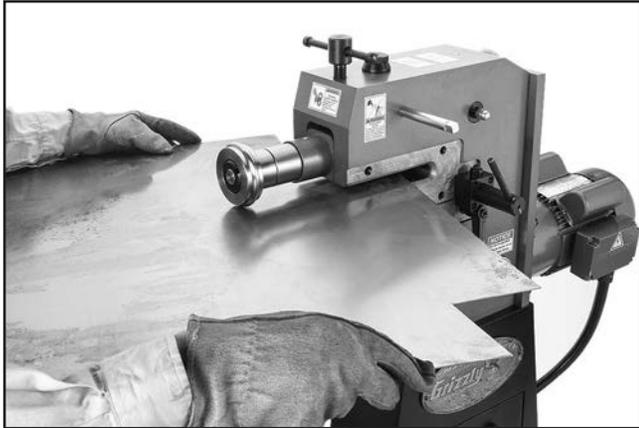

Figure 28. Workpiece loaded for rolling curved bead.
3. Place workpiece between mandrels, then lower upper mandrel until it just touches workpiece (see **Figure 28**).